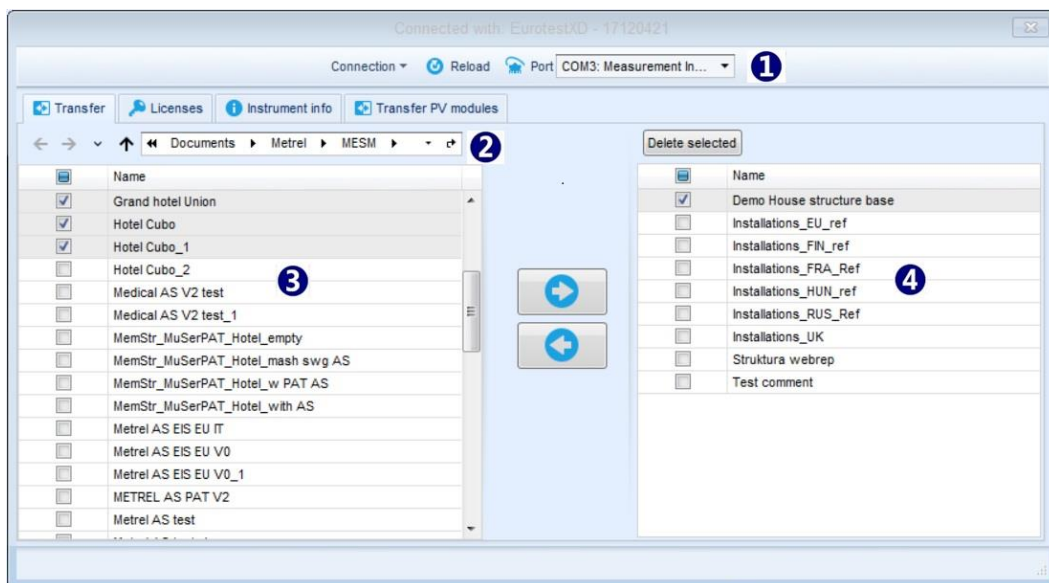

Figure 8.4: File transfer menu window
**Connect:** Opens a file transfer menu window (Figure 8.4) for managing transfer of multiple files between the connected instrument and PC.